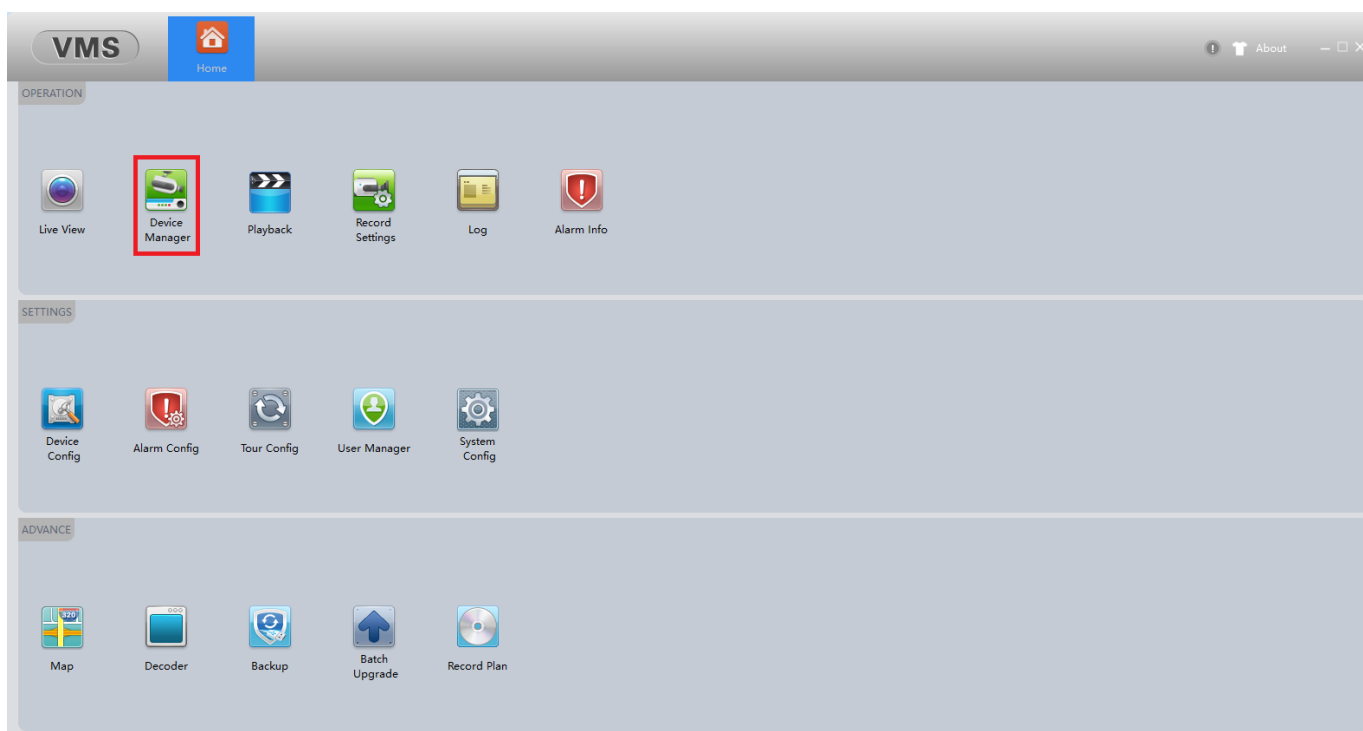

Figure 35. VMS software interface (Main menu)
- Step 1: run the VMS software, go to Device Manager (see Fig. 35);